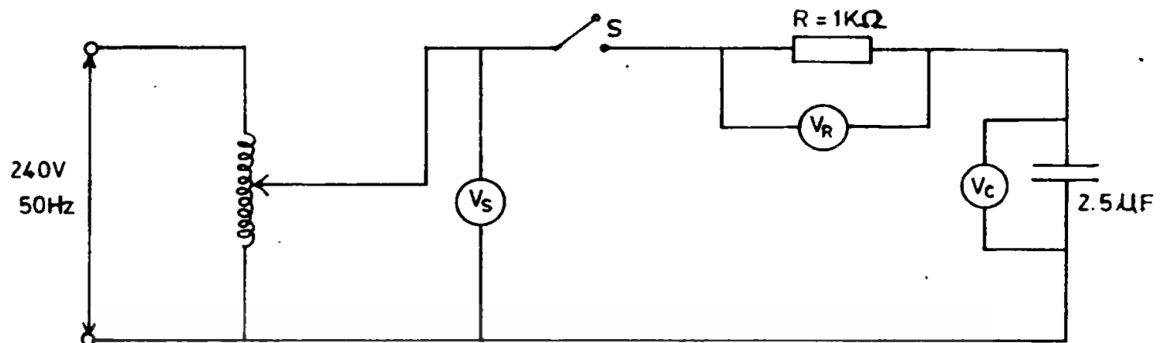

Figure 2
- Connect the circuit as shown in Fig. 2.